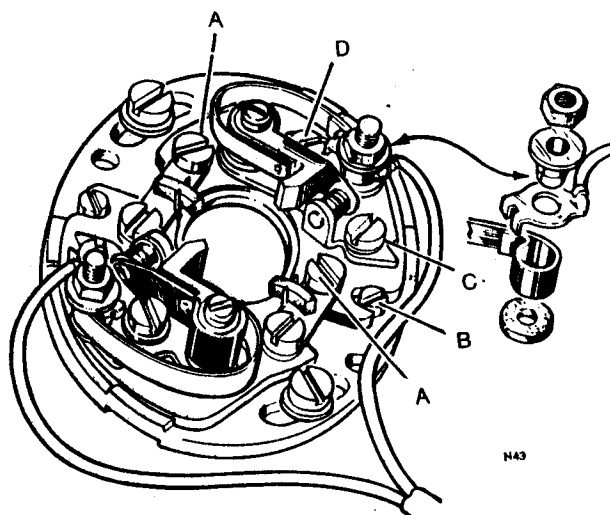

Fig. C54 Lucas contact breaker
- 11 Using the same technique, check that the contact breaker points open at 28° B.T.D.C. on the firing stroke for the second cylinder. If incorrect, make adjustment by movement of the secondary backplate. To do so, slacken screws (A) in *Fig. C54* and use the eccentric headed adjusting screws (B) to move the mounting plate. When timing is correct, re-secure the screws (A).
- 8 If timing is incorrect for the left cylinder, correct by slackening off the clamping screw for the secondary backplate for this set of points then use the eccentric headed adjusting screw to move the secondary backplate (see Fig. C54—secondary backplate screws are marked "A" and eccentric screws are marked "B"). Recheck timing with the stroboscope and when correct, secure the screws "A".
Mark III models have the Lucas 10 CA contact breaker assembly, providing a separate and independently adjustable contact set for each cylinder, see *Fig. C54*. Each contact set is mounted on its own crescent-shaped assembly plate that is fixed to the circular base plate by two screws (A). When these screws are loosened, the assembly plate can be moved in relation to the ignition cam (and the base plate) by the eccentric screw (B). This permits a very accurate setting of ignition timing for each cylinder, independently.
Before reassembly, smear the contact breaker pivot post and the cam very sparingly with Retinax "A" grease and add three drops of engine oil to each lubricating felt. When reassembling ensure that the insulating washer, contact breaker spring, terminal and insulating bush are fitted in the order shown in *Fig. C54* and that the terminal tags are inside the curve of the spring. Finally retime the ignition as described in Section C39.